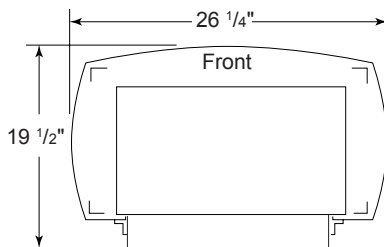

Figure 5 - Stove With Burner System Bottom Dimensions
- This stove is a freestanding unit designed to set directly on the floor. If your stove is to be installed directly on carpeting, vinyl tile, or any combustible material other than wood, it must be installed on a metal or wood panel extending the full width and depth of the stove. See Figure 5, page 7.